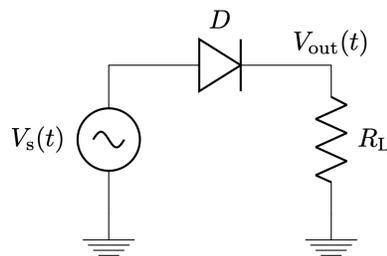

Figure 14: Half-bridge rectifier.
1. Build the half-bridge rectifier shown in Figure 14 with the 1N4148 diode. Apply a 100 Hz sinusoid to your rectifier with an $R_L = 1\text{ k}\Omega$ resistor load. Starting from 100 mVpp (ensure you are in “High-Z” mode), vary the amplitude applied until you see a 250 mV signal at the output *on the oscilloscope*. Is the voltage displayed on your function generator the same as the amplitude on the oscilloscope? Why or why not?